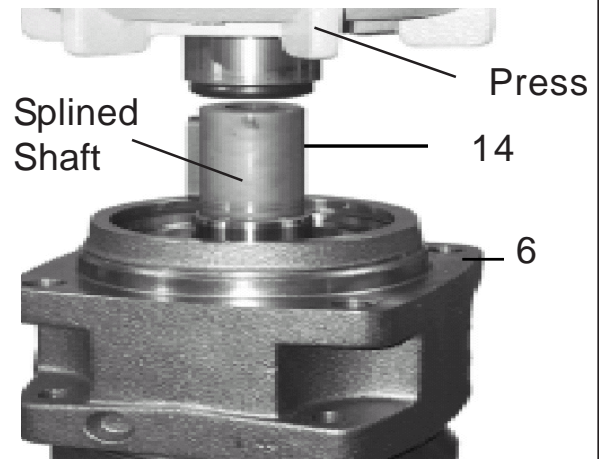

Figure 13
12. Remove Shaft. Remove Bearing housing from Vise and move to a press. Set the Housing in press where the bottom is open as the shaft will come out the bottom,. (See Figure 13) Make certain you support the shaft in a way that will not allow it to fall out when pressed and hit the floor. It will not take a lot of pressure to remove shaft so you should be able to catch it with your hand.